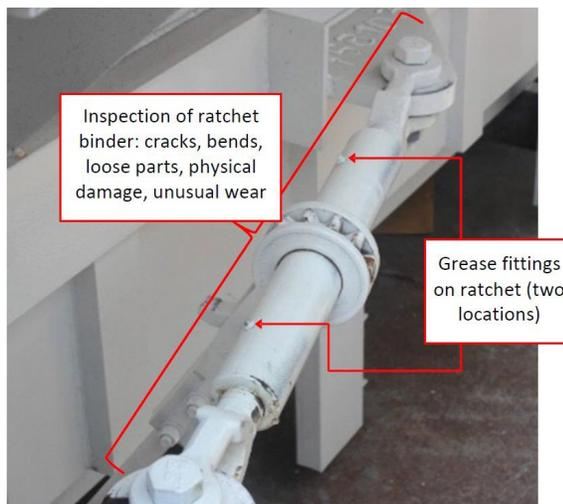

Figure 18. Grease Ratchet Binders
3. Visually check the ratchet binder hook condition and welds for cracks, bends, or damage. (Figure 18)